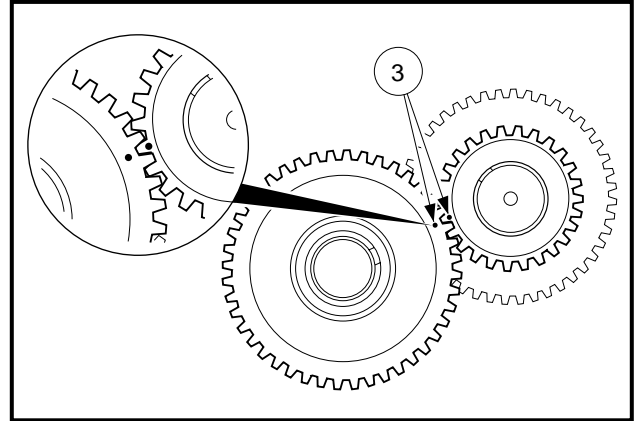

Figure 13-102 Align Timing Marks between Camshaft and Crankshaft
- Align the timing marks (3) (Figure 13-102, Page 13-46). See following NOTE.